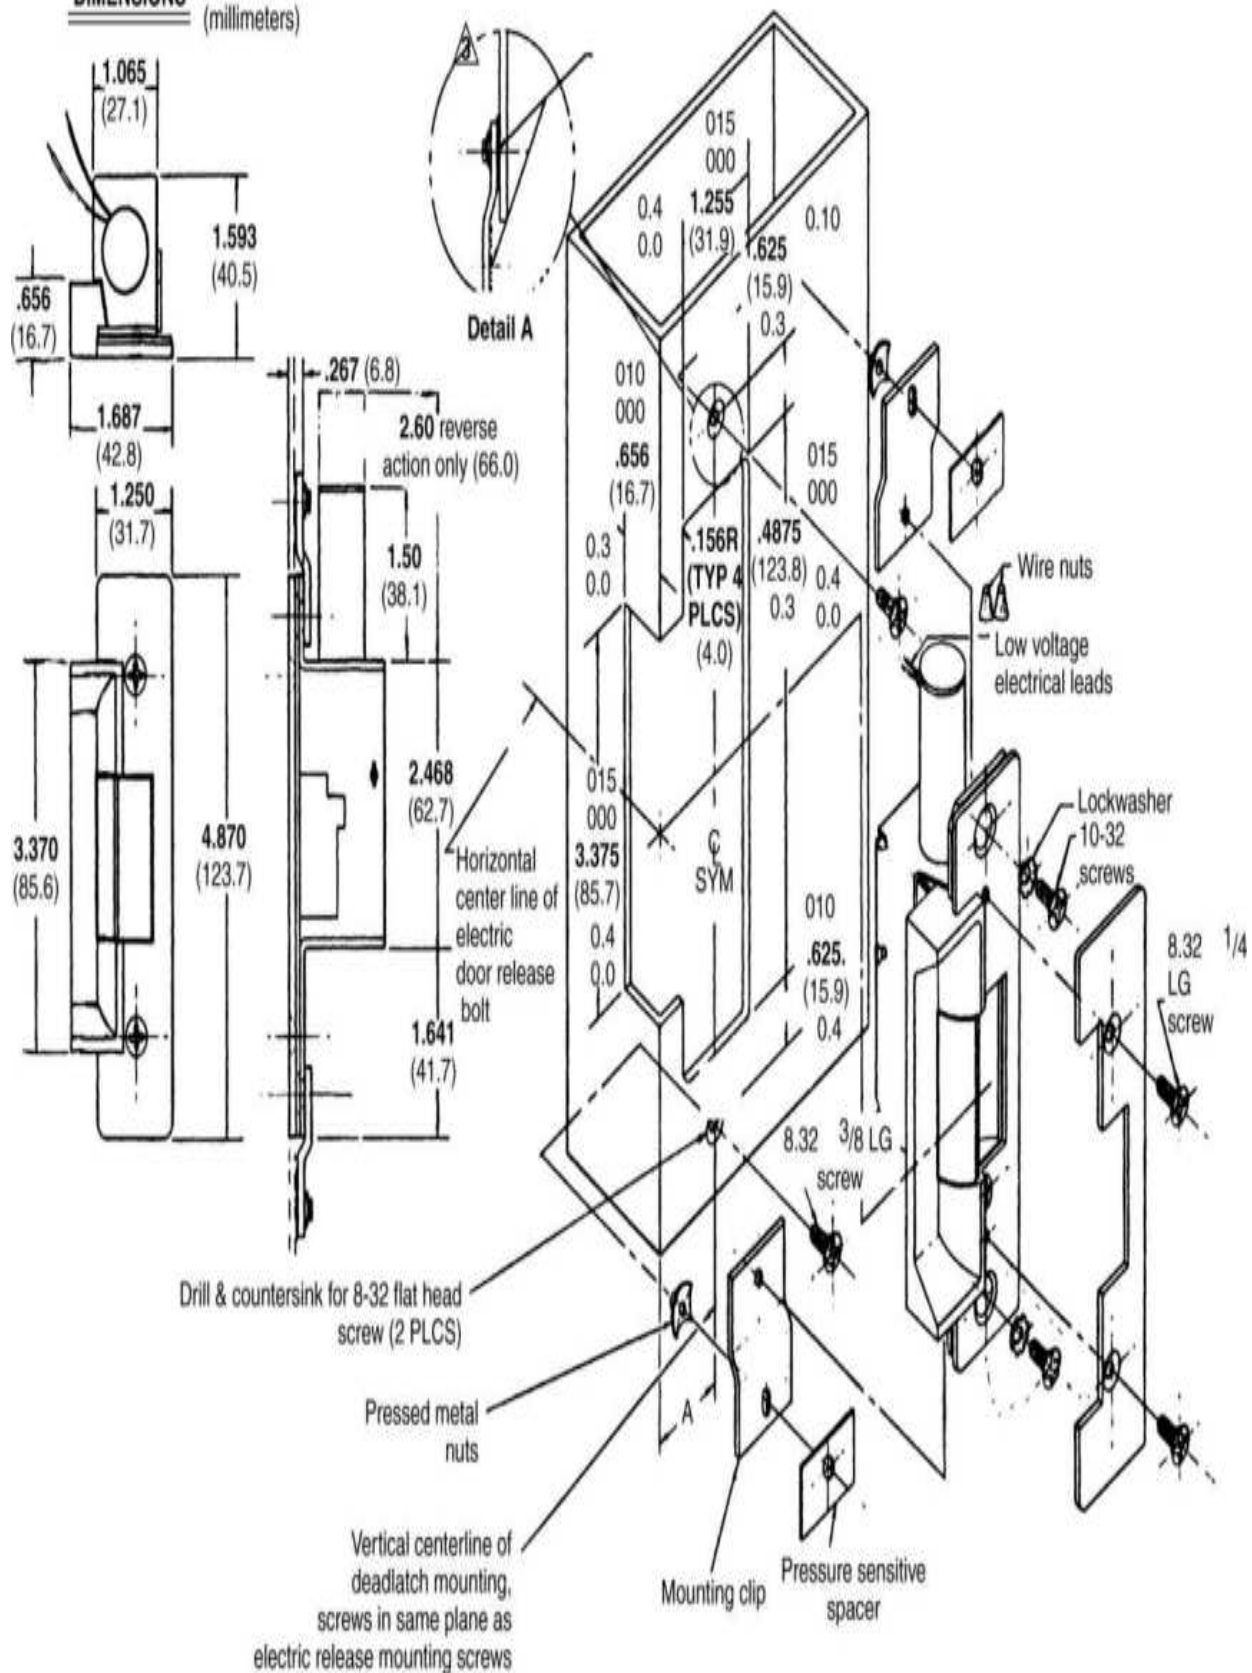

**Figure 19.5** Installation details for a key-in-knob latch unit. (*Adams Rite Mfg. Co* .)
1. Prepare the door jamb as shown in Fig. 19.5 .